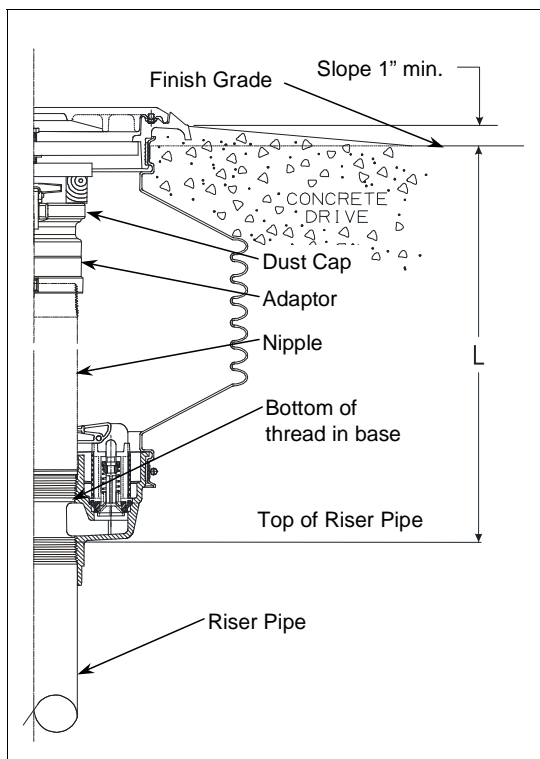

Figure 2
**Step 7:** (See Figure 2)
**Step 10:** (See Figure 2)
Before pouring concrete, place plastic over the cover and mounting ring protecting them from concrete splash. Double check that the unit is level and at proper grade height. Pour concrete per figure 2. Ramp or dome the concrete away from the mounting ring. There should be a minimum of 1" slope to finish grade. The concrete surface should start at the bottom edge of the watershed slots and tapered down to grade level.